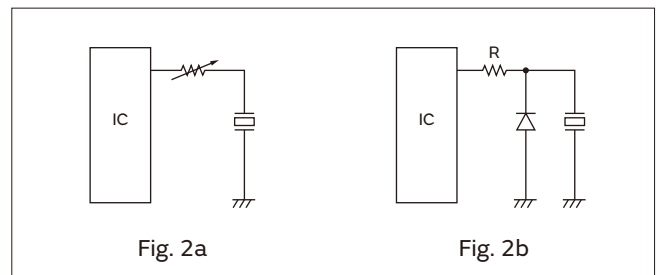

Fig. 2a
2. When driving the product by IC, please insert the resistance of 1k to 2kΩ in series. The purpose is to protect the IC and to obtain stable sound. (Please see Fig. 2a). Inserting a diode in parallel to the product has the same effect. (Please see Fig. 2b).